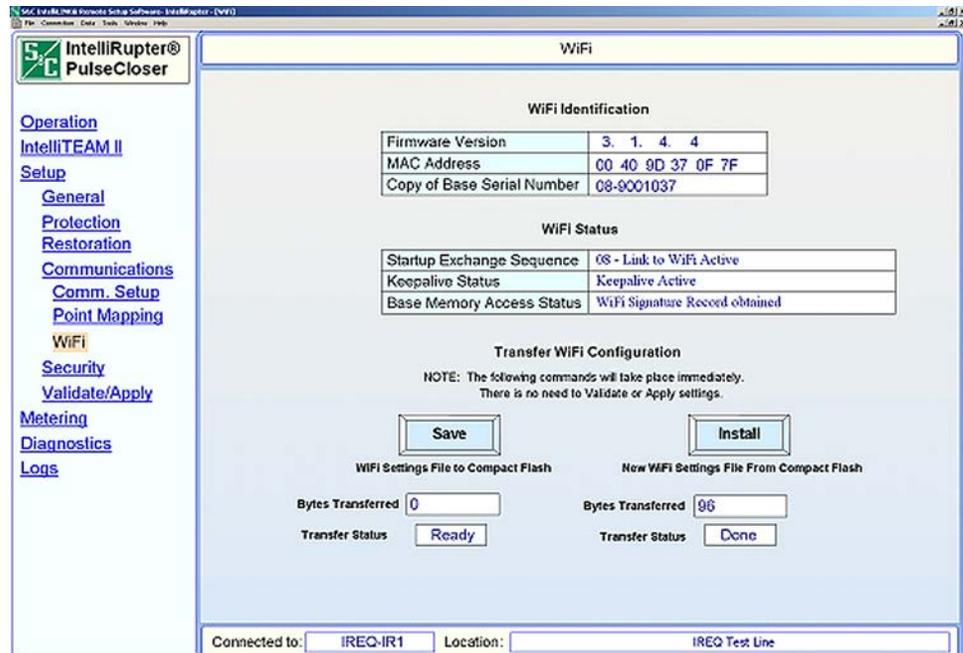

Figure 27. The *Wi-Fi* setup screen.
- STEP 8.** In the IntelliLink software screenset, select *Setup>Communications>Wi-Fi*. See Figure 27 on page 20.